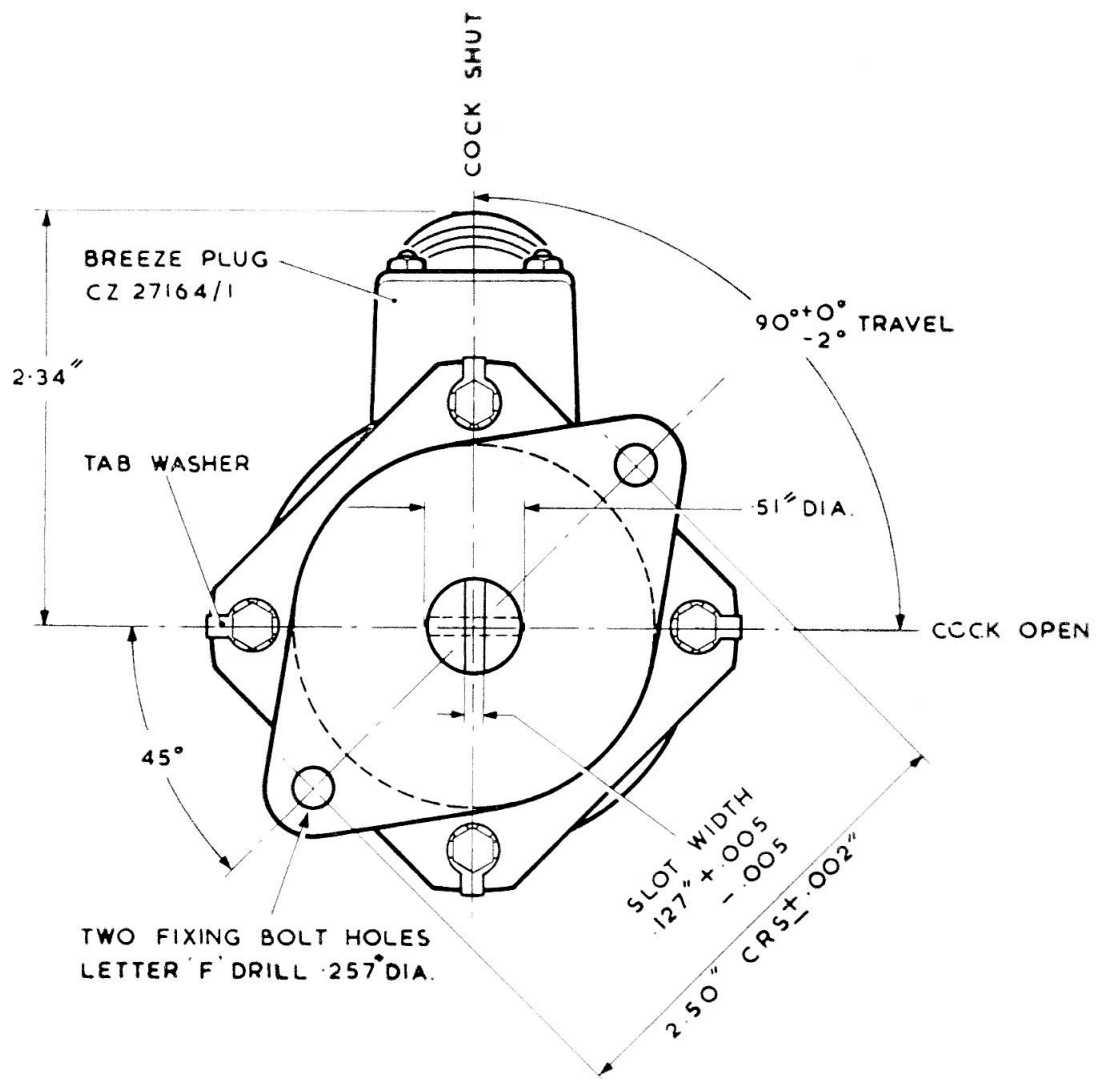

Fig. 1. Installation drawing
2. The snap action limit switches in the Mk. 12 are adjusted during assembly to permit 90° angular travel of the coupling shaft. This adjustment requires the use of a manufacturers special rig and no attempt should be made to alter the setting. Detail of the movement of the coupling shaft relative to the mounting flange is shown in fig. 1. The operating times under various